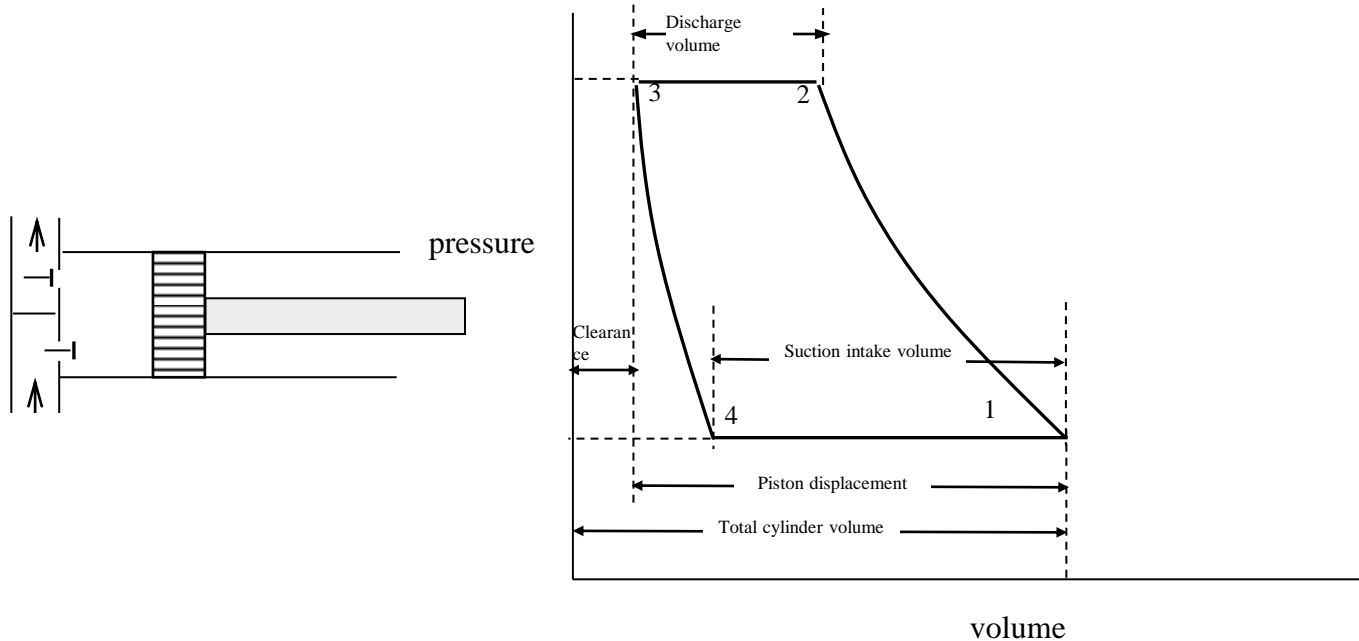

Fig.10-4 Principle of operation of a reciprocating compressor
- The states of the refrigerant in a reciprocating compressor can be expressed by four lines on a PV diagram as shown in Fig.10-4.